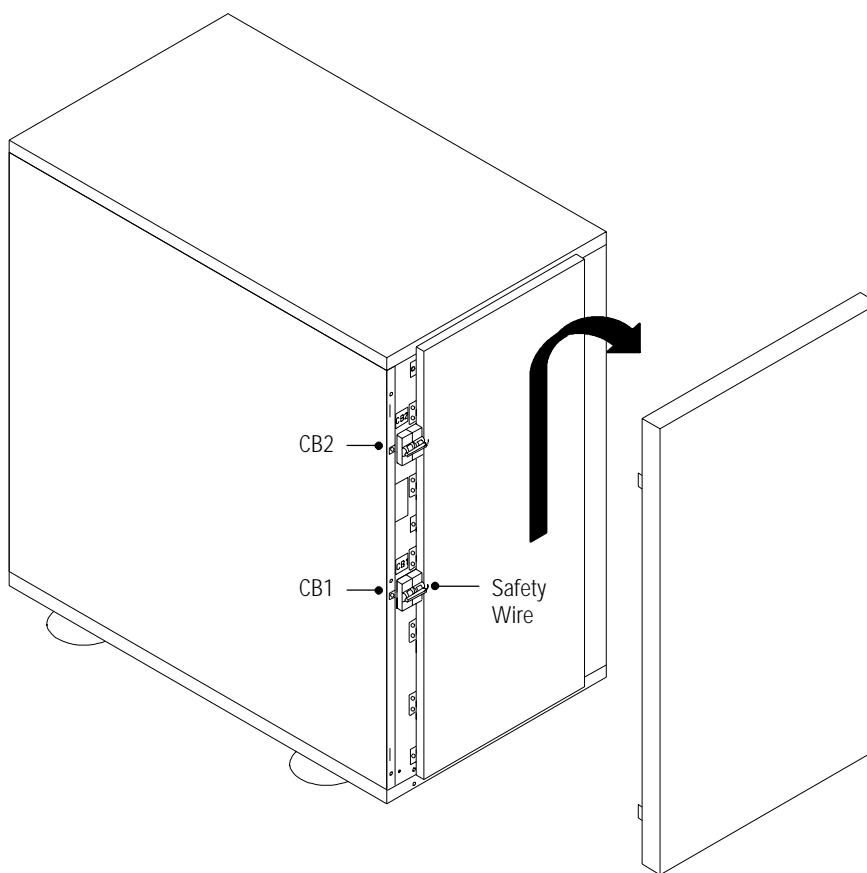

Figure 12. EBC Front Panel
4. Remove the front panel of each EBC. Lift from the bottom of the panel and then pull out (see Figure 12).
8. Disconnect the safety wire from the circuit breakers on each battery cabinet and switch the breakers to the ON position (see Figure 12).